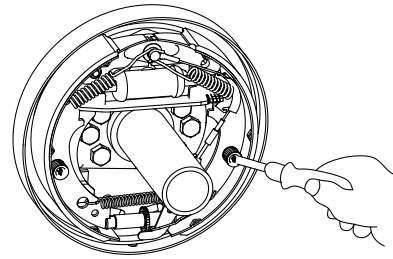

Fig. 2-10
(1) Remove the support pin, adjusting lever, adjusting device and spring of secondary shoe. (See Fig. 2-10)